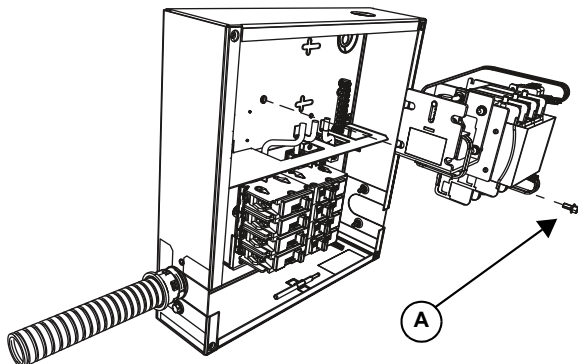

Figure 3-3.
- Remove the screw that holds the transfer mechanism in place (A in Figure 3-3), and remove the 3 pole transfer mechanism from the transfer switch.